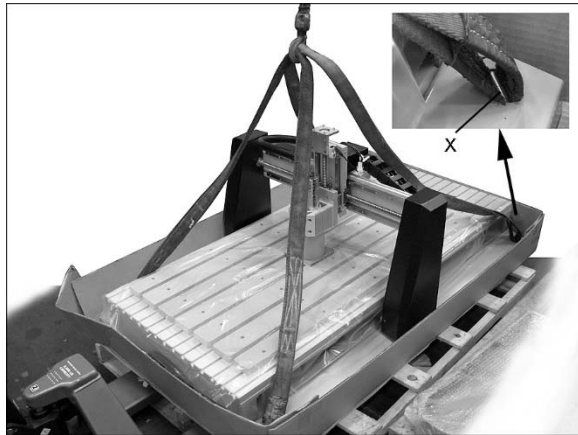

Figure 7-18
1. Place straps around steel bolts, and put bolts inside the four holes (X, Figure 7-18). **Make sure bolts are long enough to span hole and catch beneath base, and that straps will tighten clear of gantry and any fragile parts.**